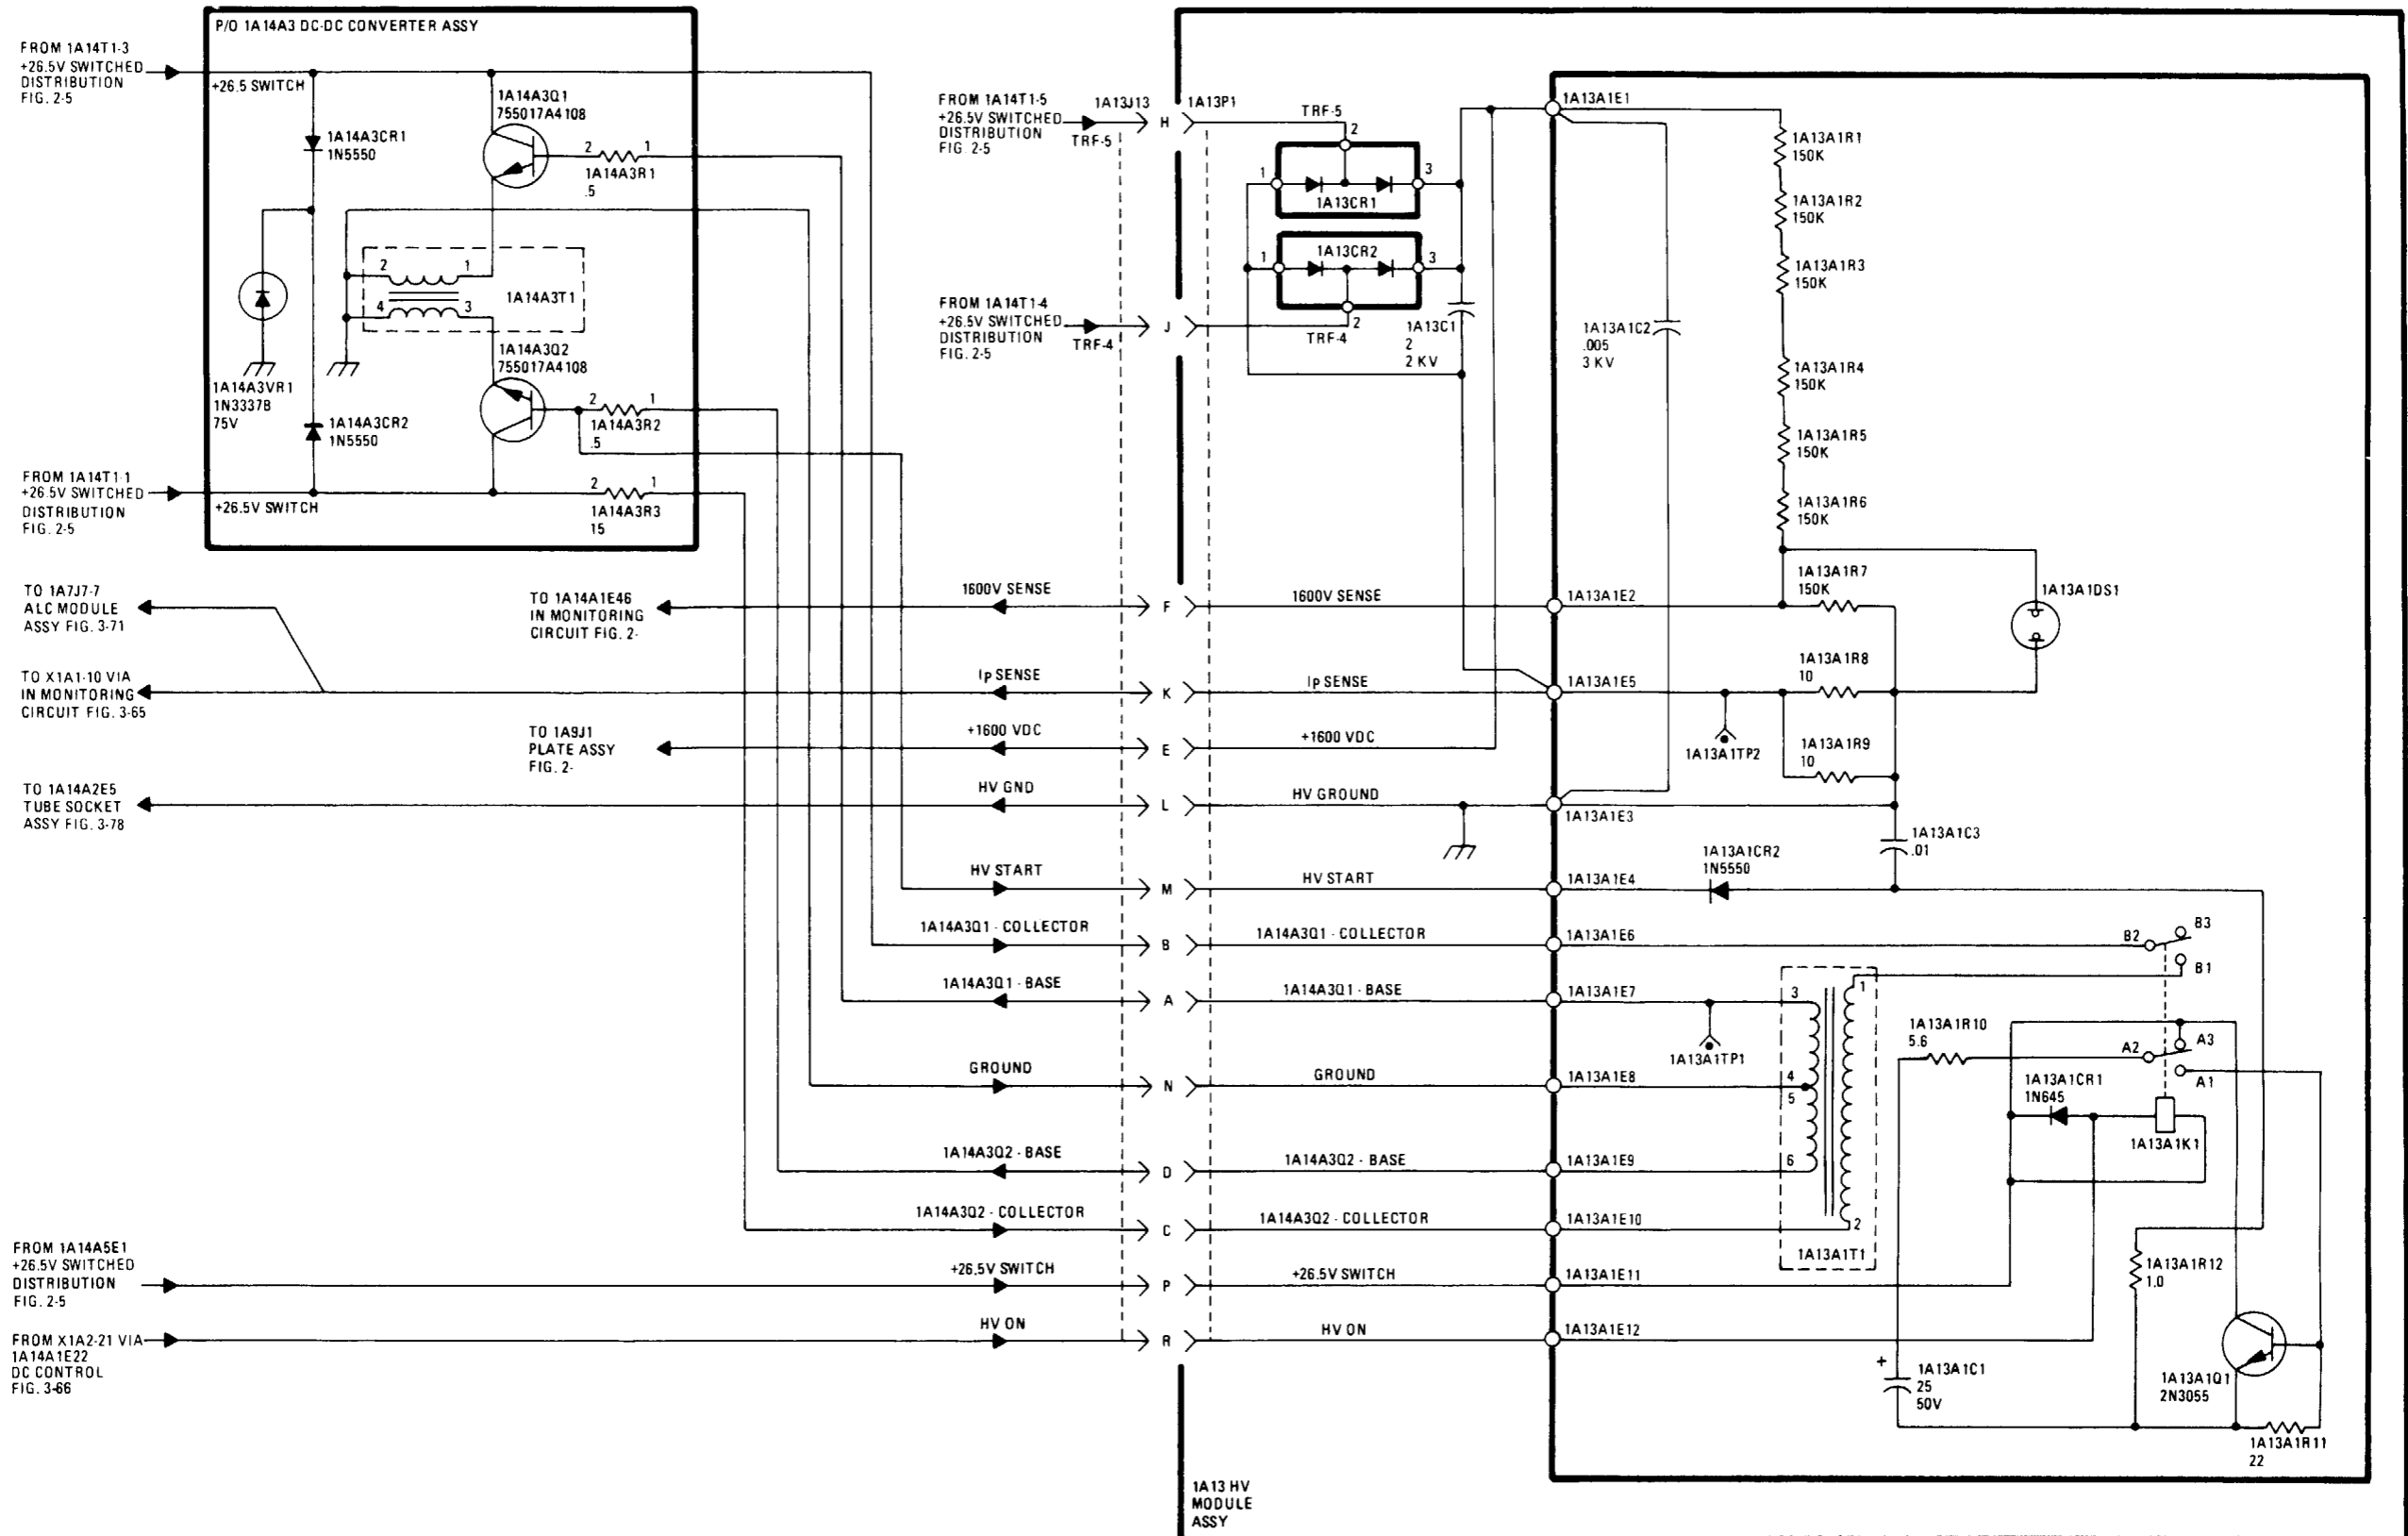

Figure 2-11. +1600V Generation and Distribution
2-137. +1600 VDC HIGH VOLTAGE POWER SUPPLY (See figures 2-11, 3-78, 3-66, and 3-77)
- a. The De-to-De Converter 1A14A3 (see figures 2-11, 3-78 and 3-77) is a power oscillator which consists of transistors 1A14A3Q1 and Q2, two ferrite beads labeled 1A14A3T 1, and base feedback transformer 1A13T1 (part of HV Module Assembly 1A13). When the HV ON signal (ground) from DC Control PWB Assembly 1A2 energizes the HV START relay 1A13A1K1, transistors 1A14A3Q1 and Q2 oscillate at approximately 2 kHz. Transformers 1A14T1 and 1 A13A1T1 are phased to sustain oscillation, and resistors 1A14A3R1 and R2 are used to limit the base current of transistors 1A14A3Q1 and Q2.
- (1) When primary power is switched ON.
- (2) During normal operation after the 60 second warm-up time delay and with the transmitter keyed.
- (3) During a FAULT.